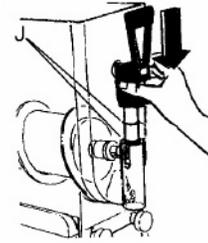

FIGURE 27
35. Replace the tap, apply Food Grade Lubricant to both the seating in the bowl and the seals (J, FIGURE 27).